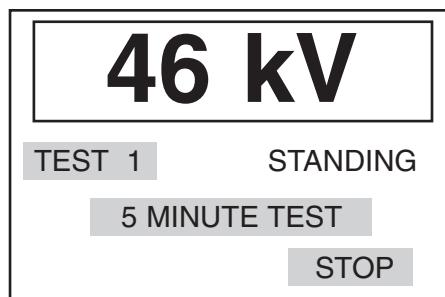
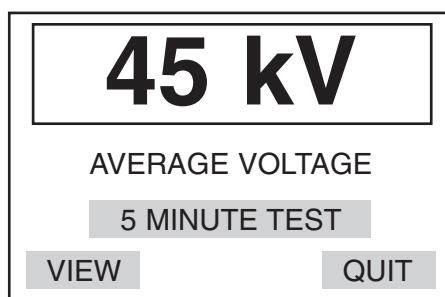
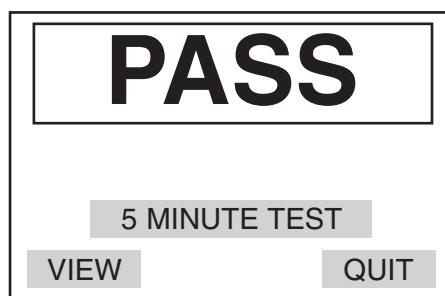

Figure 8 Example Intermediate stand time screen
Figure 9 Example Average breakdown voltage screen
Figure 10 Example Pass screen
4. When stirring has finished the test set begins its oil sample intermediate standing period which lasts for 30 s. Again the time remaining for standing is shown alternately with the words 'STANDING' and the breakdown voltage is still retained on the display. The display screen appears as in figure 8.
5. When step (4) is finished the test voltage then begins to rise again as in step (2) above, this time for 'TEST 2', and the cycle of events repeats.
6. Steps (3), (4) and (5) are repeated so that the test voltage is applied for a third time. After the test voltage has been cut off on the third test, the display screen shows the average breakdown voltage value from the three tests in the sequence. The display screen appears as in figure 9, or figure 10 if the PASS/FAIL option has been enabled.
4. When stirring has finished the test set begins its oil sample intermediate standing period which lasts for 1 minute. Again the time remaining for standing is shown alternately with the words 'STANDING' and the previous breakdown voltage is still retained on the display. The display screen appears similar to that in figure 8.
5. The test voltage then begins to rise again as in step (2) above, this time for 'TEST 2', and the cycle of events repeats.
6. For these specifications there are 6 consecutive tests. After the test voltage has been cut off on the last test, the display screen shows the average breakdown voltage value from the 6 tests in the sequence. The display screen appears similar to that in figure 9 or figure 10 if the PASS/FAIL option is enabled. The BS 148 test includes the recommended pass limit and shows pass or fail as well as the actual average breakdown voltage.
3. When breakdown occurs (or if the maximum voltage is reached) the test voltage is cut off, the 'kV' warning light goes out and the test set begins its oil sample intermediate stand period of 1 minute. There is no stirring period. The display screen appears similar to that in figure 8.
4. When the intermediate stand time has finished the test voltage begins to rise again as in step (2) above, this time for 'TEST 2', and the cycle of events repeats.
5. For this specification there are 5 consecutive tests. After the test voltage has been cut off on the last test, the display screen shows the average breakdown voltage value from the 5 tests in the sequence. The display screen appears similar to that in figure 9 or figure 10 if the PASS/FAIL option is enabled.
3. When breakdown occurs (or if the maximum voltage is reached) the test voltage is cut off, the 'kV' warning light goes out and the test set begins its oil sample intermediate stand period of 1 minute. The display screen appears similar to that in figure 8.